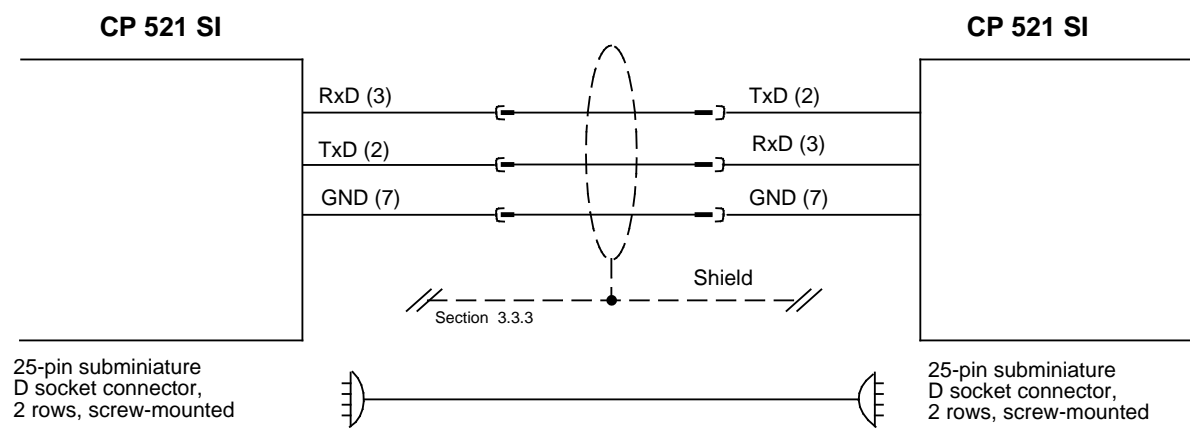

Figure 9-2. Terminal Diagram for a CP 521 SI - CP 521 SI Connection (RS-232C/V.24)
- Terminal diagram as per Figure 9-2.